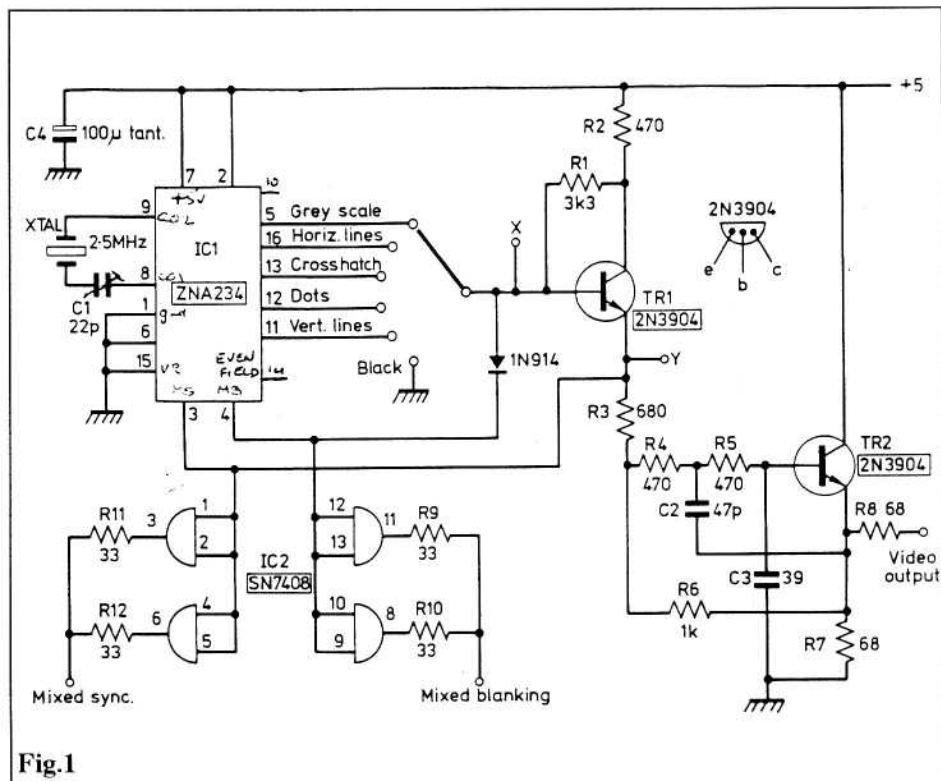

Fig.1
*The original article for the ZNA234 Test Pattern and Sync Generator was published in the BATC book 'Micro and TV Projects and the circuit was as shown below in Fig.1.*